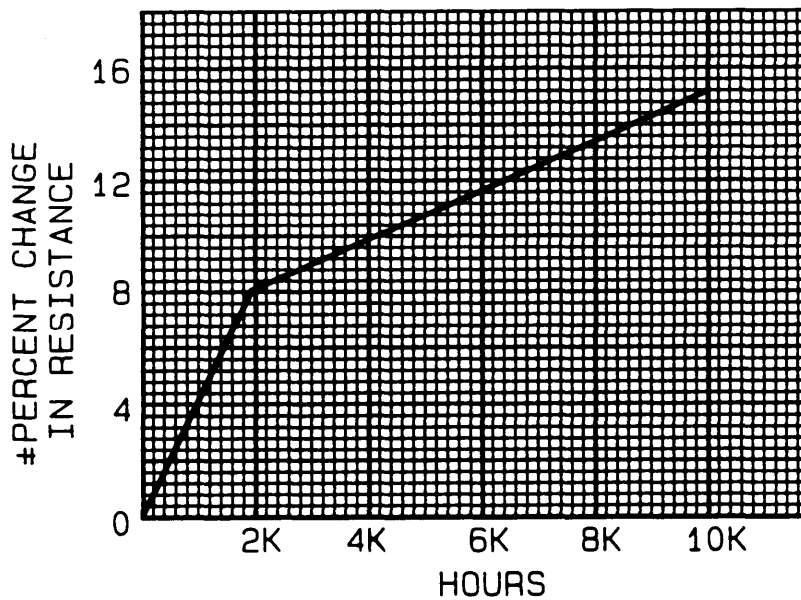

FIGURE 301-3. Life test degradation curve.
2.17 Life degradation. The curve on figure 301-3 was established from percent change in resistance requirements of MIL-R-39008.